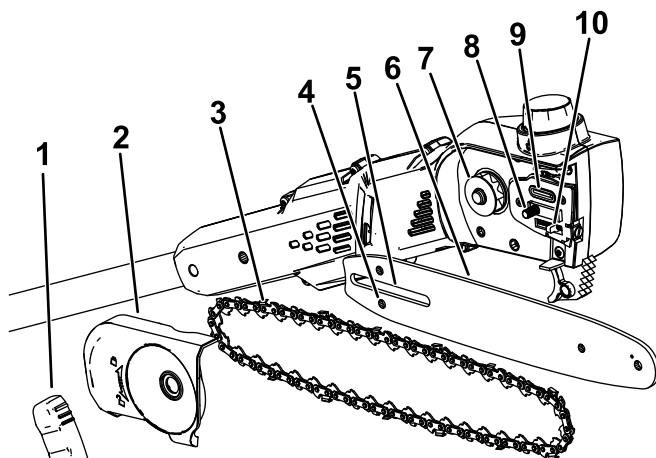

Figure 3
2. Remove the side cover; turn the bar cover knob counterclockwise until the knob is removed and then remove the side cover (Figure 3).
5. Position the open loop of the chain (the side not on the guide bar) around the drive sprocket on the pole saw (**Figure 3**).
Important: Ensure that the chain adjusting stud is inserted into the chain adjusting stud slot on the guide bar (**Figure 3**).